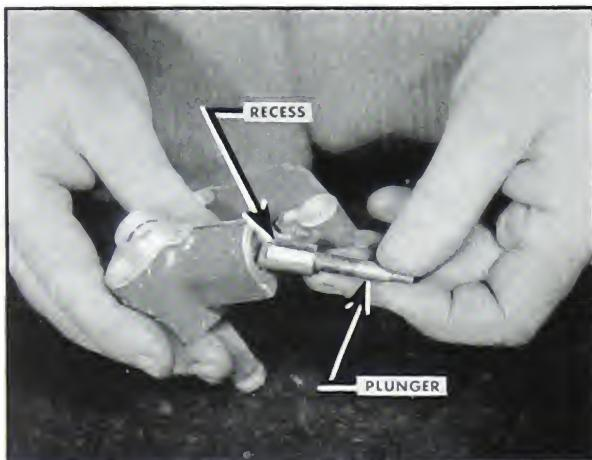

Fig. 5-243. Replacing the plunger
- facing the reset knob side of the stop. Fig. 5-243.